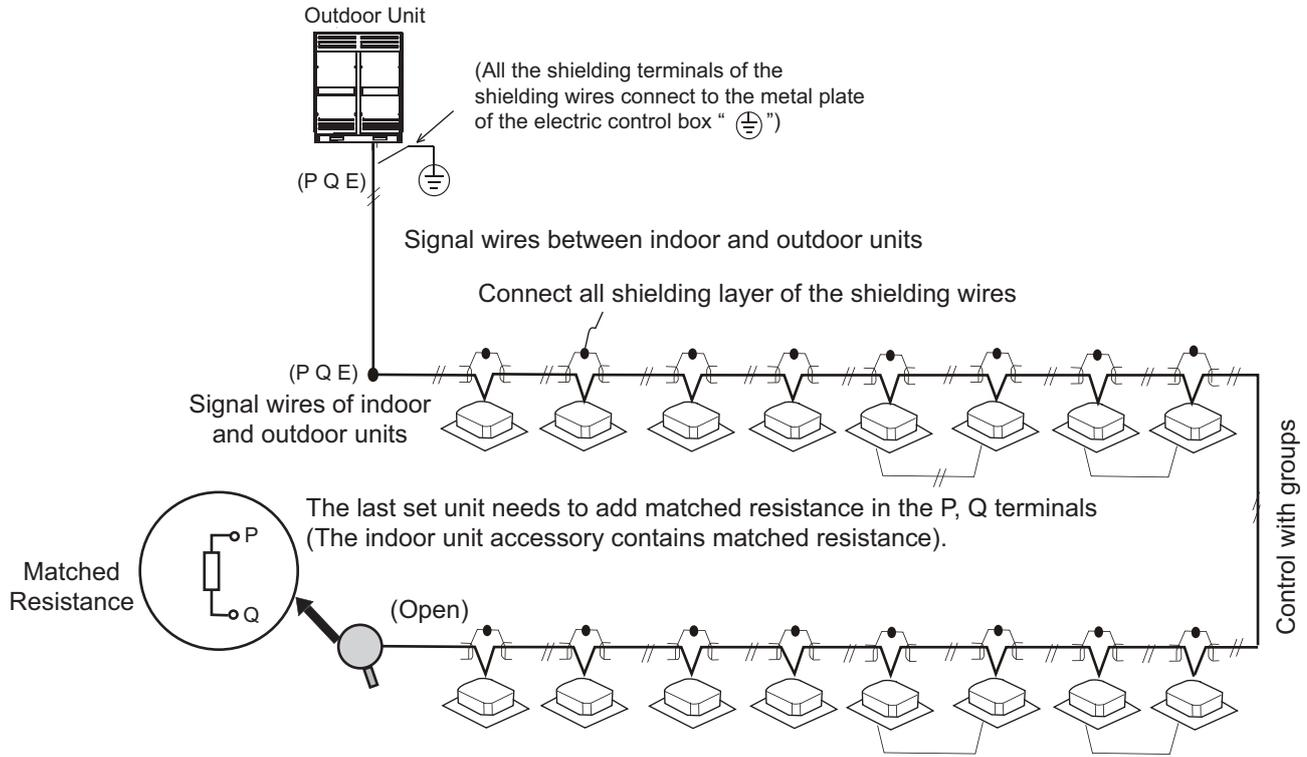

Fig.7-1
- 2) Inter-connect all the shielding nets of shielding line, and at last be together connect to the metal plate grounding “⊕” (refers to Fig.7-1).